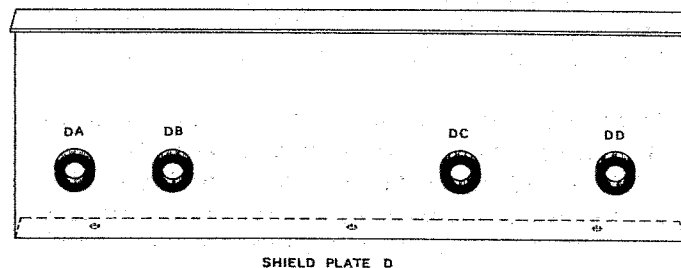

Figure 12
- (✓) Connect a 10 μmf condenser (brown-black-black or marked) from K1 (S) to S7 (S). Solder both S7 contacts securely.
- (✓) Refer to Figure 12 and install rubber grommets in shield plate D at locations DA, DB, DC and DD. Note that DA and DB are the two holes closest together.
- (✓) Connect the center conductor of the shielded wire appearing through grommet DA to switch V2 (S) and the adjacent braid end to V1 (S).
- (✓) Connect one of the wires appearing through grommet DD to socket D3 (S) and the adjacent wire to D4 (S). Dress the wires tight to the chassis and back apron.
- (✓) Run the red wire appearing through grommet AD, through grommet DD and connect it to condenser Y = (S).
- (✓) Connect a wire from socket E1 (S) through grommet DD to terminal strip L3 (S).
- (✓) Place the end of the twisted pair which has the wires even, through grommet DA from terminal strip L side and connect one of the leads to control switch U4 (S). Connect the adjacent wire to U5 (S).
- (✓) At the opposite end, place the leads through grommet DD and connect the longer lead to socket E5 (S). Connect the adjacent end to terminal strip X2 (NS). Dress the wires tight to the chassis and shield bracket.